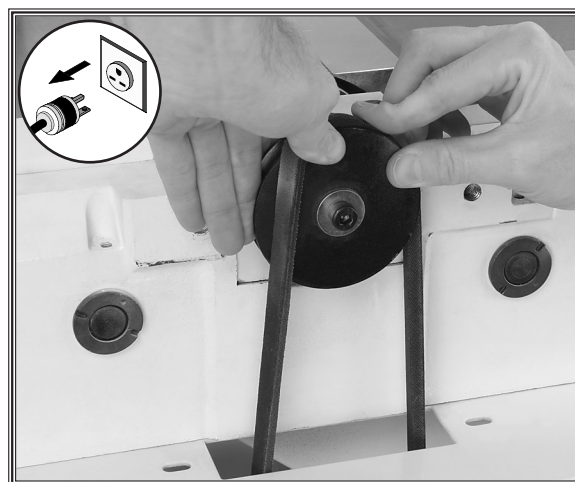

Figure 65. Rolling the V-belt onto the cutterhead pulley.
4. Roll off the old V-belt and roll on the new V-belt, as shown in **Figure 65**.